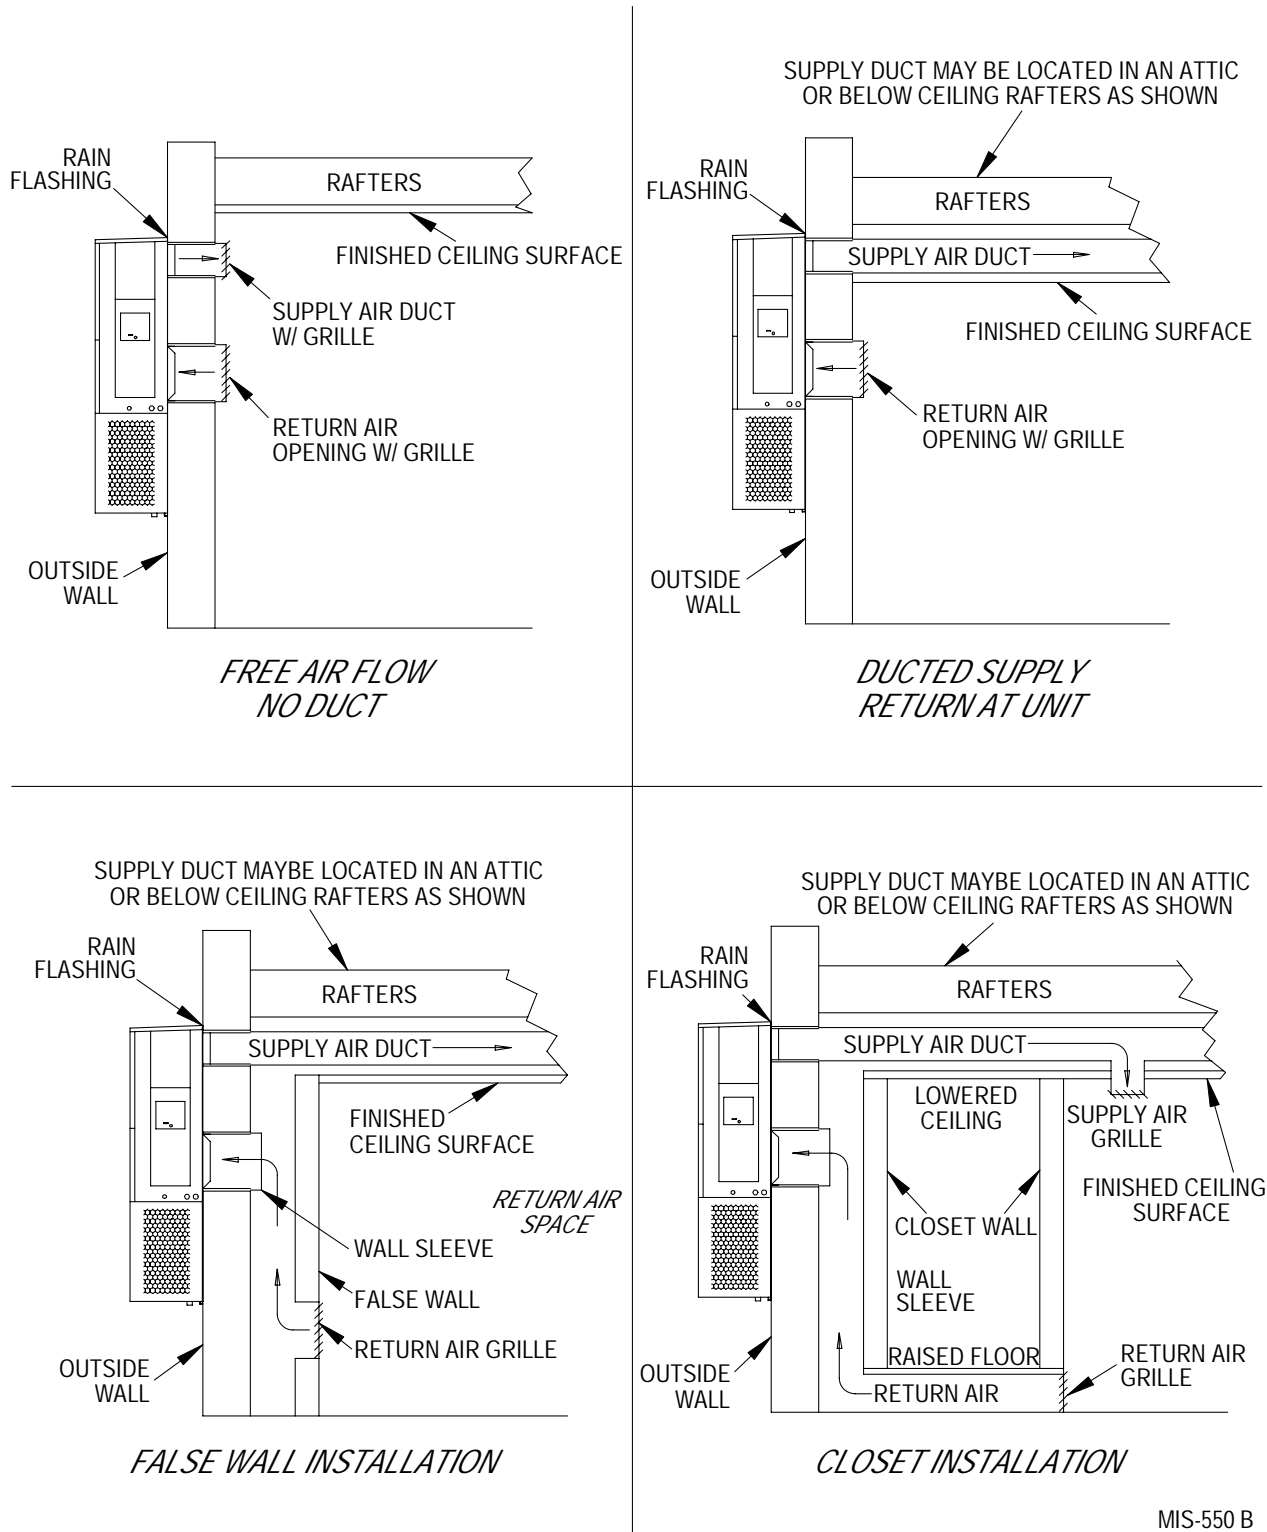

### FIGURE 4 WALL-MOUNTING INSTRUCTIONS
2. On wood-frame walls, the wall construction must be strong and rigid enough to carry the weight of the unit without transmitting any unit vibration. See Figures 4 and 5.
3. Concrete block walls must be thoroughly inspected to insure that they are capable of carrying the weight of the installing unit. See Figure 4.
3. Locate and mark lag bolt locations and bottom mounting bracket location. See Figure 4.